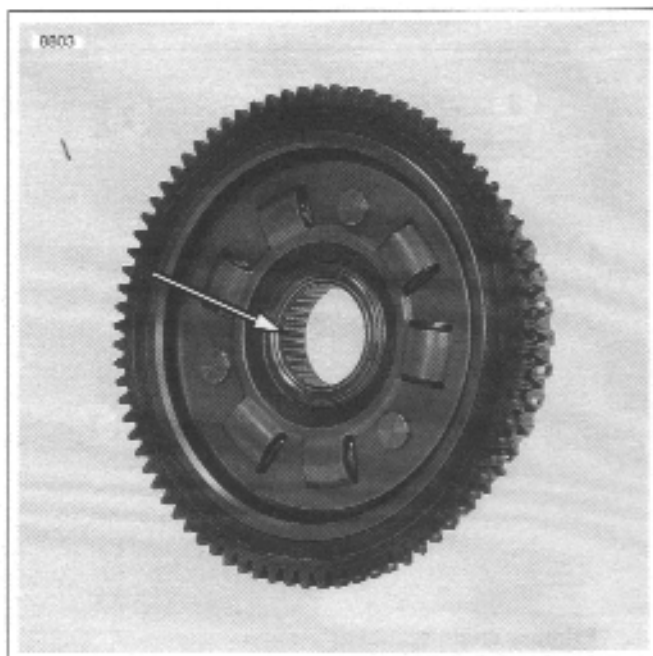

Figure 6-24. New Needle Bearing in Clutch Shell
6. See Figure 6-24. Inspect clutch shell needle bearing for smoothness. Rotate the clutch shell while holding the clutch hub. If bearing is rough or binds, it must be replaced. See Replacing Clutch Shell Bearing.